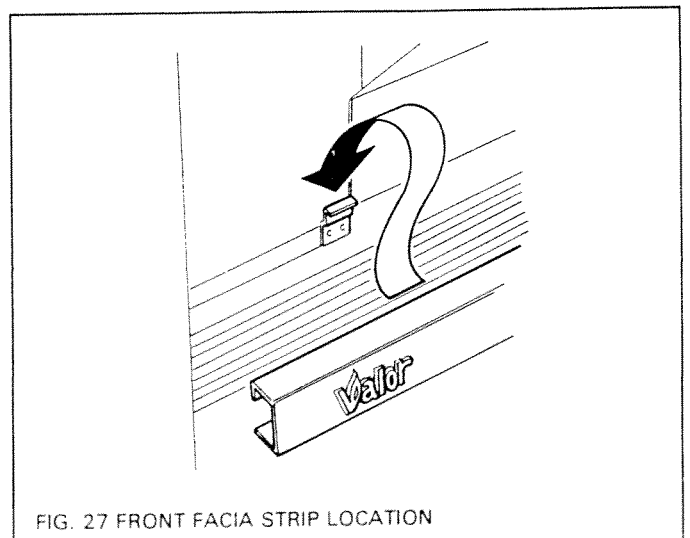

FIG. 27 FRONT FACIA STRIP LOCATION
- (b) Locate the bottom front facia strip over the two location brackets as shown in fig. 27.